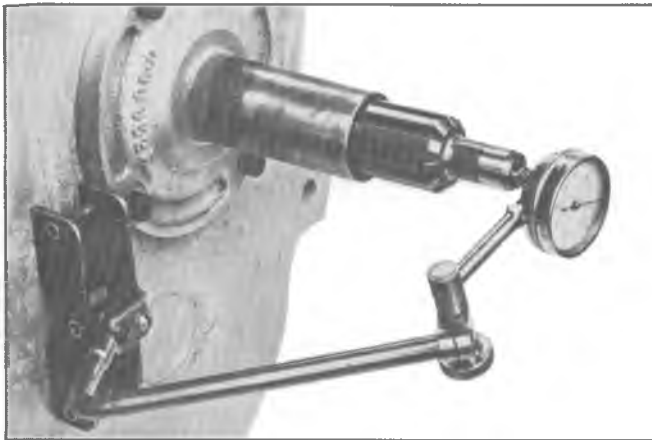

Fig. 16K—Input Shaft Bearing End Play
1. With part of clutch gear with missing teeth down allow for passage over countershaft gear, guide main drive gear assembly into transmission case and over front end of mainshaft. Be sure front synchronizer stop ring (40) engages teeth of drive gear. Push the assembly in until snap ring on bearing (5) is against transmission case.
2. Position main drive gear bearing retainer (2) (without gasket), over drive gear shaft and against the transmission case.
3. While holding bearing retainer (2) in place and using a feeler gauge, check gap between retainer and transmission case. Remove bearing retainer (2); then reinstall bearing retainer, two new gaskets and sufficient shims to obtain a thickness approximately .010-.015" greater than previously measured.
4. Install four self-sealing, self-locking screws (1) attaching drive gear bearing retainer (2) to transmission case (15). Tighten screws firmly (25-35 lb. ft.).
5. Using a dial indicator, check end play of the input gear Figure 16K. If end play is not .007 to .017", remove or add shims as required.